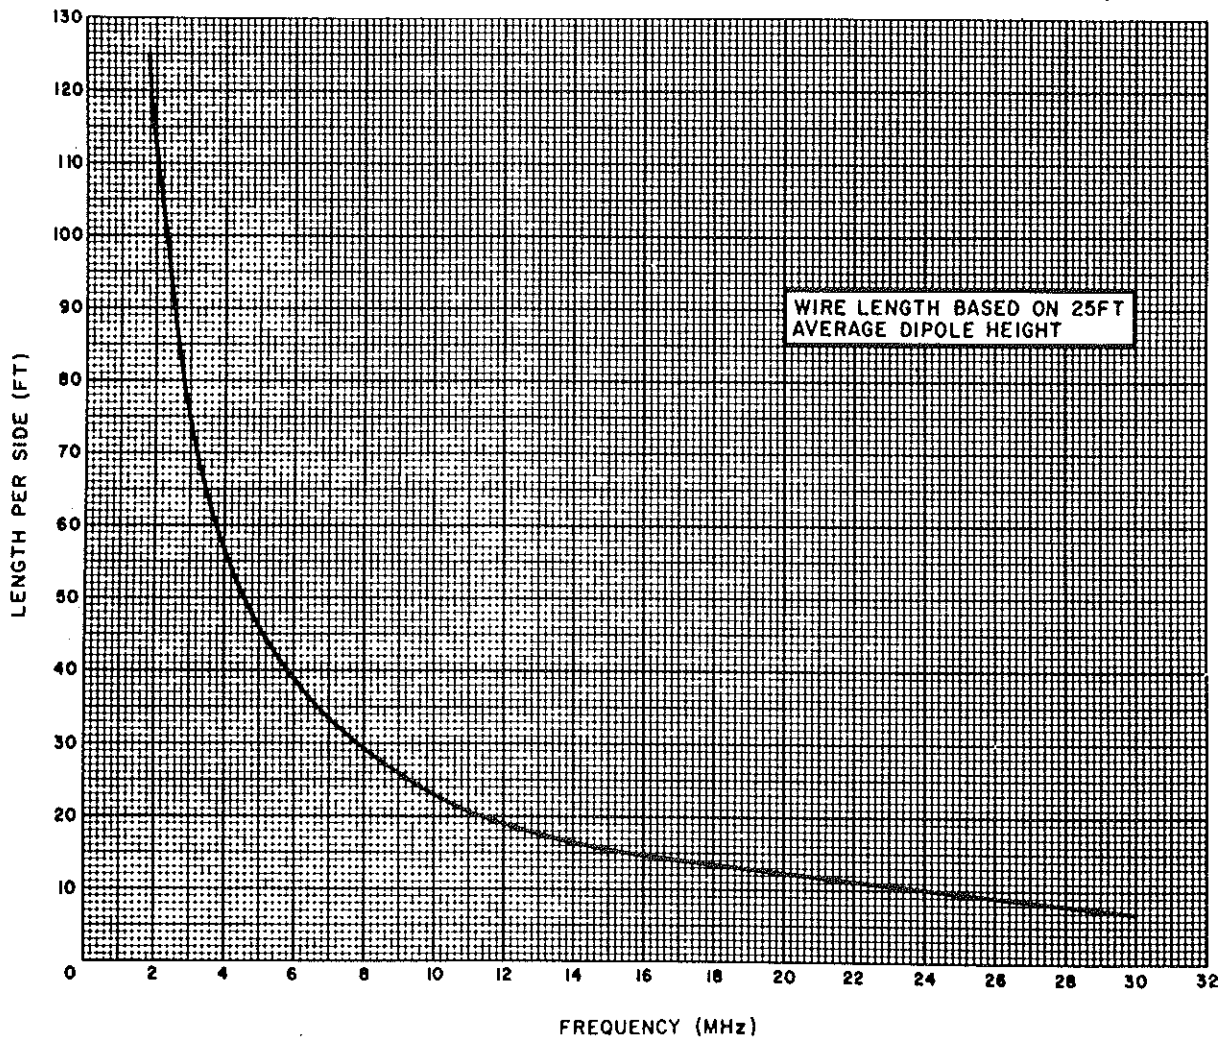

Fig. 4 637T-2 antenna wire element/frequency graph
7. Fig. 4 illustrates the graph of the antenna wire element/frequency characteristics of this antenna and is calculated on an average dipole height of 25 ft above ground level. The wire elements are deployed to the correct operational length by selecting the operating frequency on the two dials on either side of the antenna housing and locking the pointers. The wire elements can then be reeled out of the housing until the correct length is deployed. Connection from the antenna balun transformer to the wire elements is via thumb nut connectors mounted on the antenna housing.
8. The figures obtained from fig. 4 or the wire lengths deployed from the dial settings should be used only as a guide and it may be necessary to make further fine adjustments to the 637T-2 to improve the transmitter v.s.w.r. at a later stage in the setting-up.